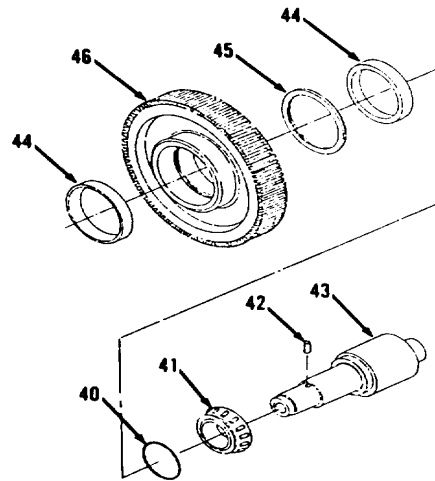
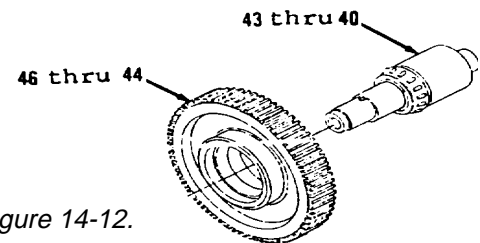

Figure 14-13.
Figure 14-12.
27. Using dry ice, lower temperature of two bearing cups (44, Figure 14-13).
28. Install two bearing cups (44) and lock ring (45) in idler gear (46).
29. Install dowel pin (42) on idler gear shaft (43).
30. Heat roller bearing (41) in engine oil SAE 30 to temperature of 275 degrees F.
31. Install roller bearing (41) and spacer (40) on idler gear shaft (43).
32. Install items 46 thru 44 as an assembly on items 43 thru 40 as an assembly (Figure 14-12).